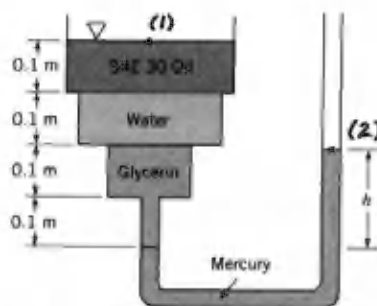

FIGURE P2.4R
2.4R (Manometer) A tank is constructed of a series of cylinders having diameters of  $0.30$ ,  $0.25$ , and  $0.15 \text{ m}$  as shown in Fig. P2.4R. The tank contains oil, water, and glycerin and a mercury manometer is attached to the bottom as illustrated. Calculate the manometer reading,  $h$ .